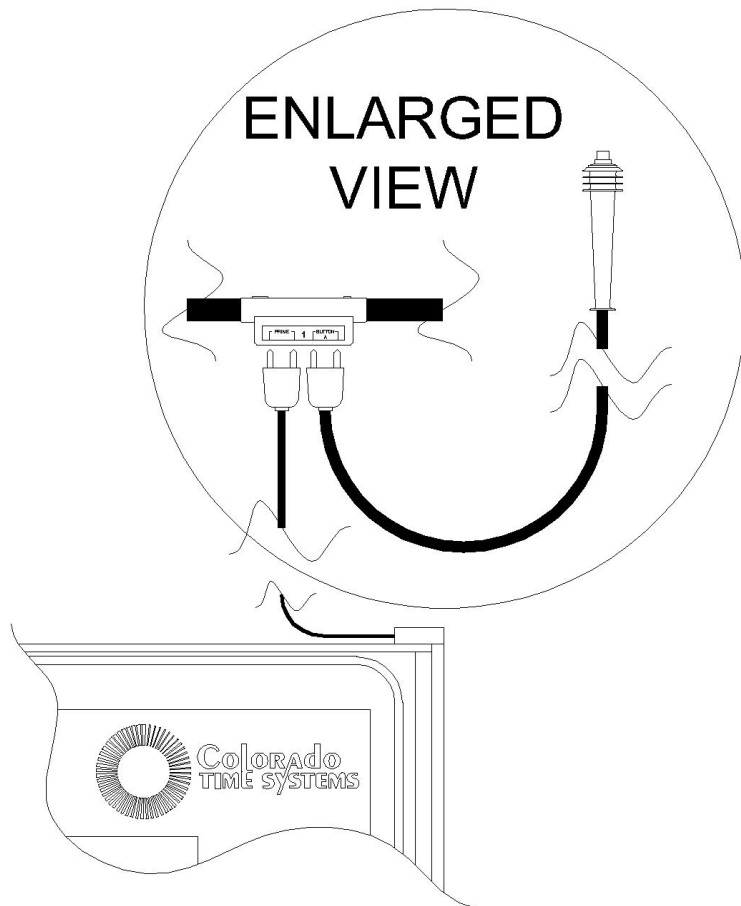

Figure 2-B Touchpad/1-Button Backup Finish
4) Connect the primary cable harness or in-deck wiring system cable to either input connector (for the appropriate end) on the I/O panel of your System 6. Figure 2-E shows a complete pad finish and one-button back-up system.